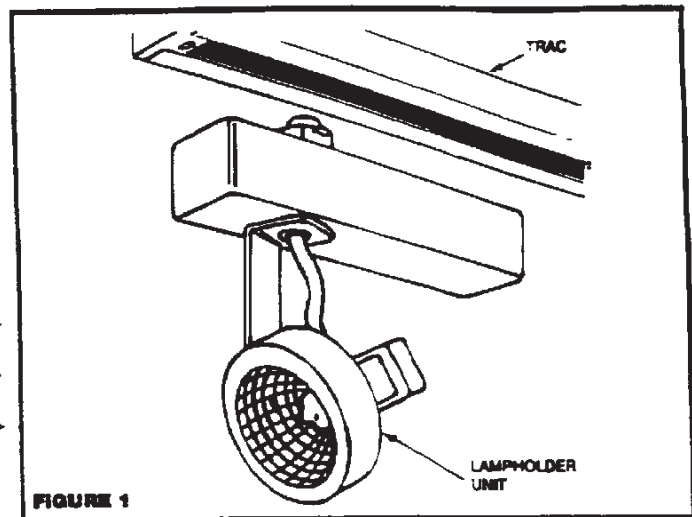

FIGURE 1
Halo-2 Lampholders can be used with Halo Miniature or Halo-2 Power-Trac systems. An adjustable contact allows you to select the circuit position. Use a narrow blade screwdriver, as shown, to adjust the contact. Lift or lower the contact until it touches the plastic stop of the contact assembly. For circuit #1 move contact to the down position. For circuit #2 move contact to the up position. (Figure 1)
**STEP 1** Allow unit to cool and then remove from trac. (Figure 1)